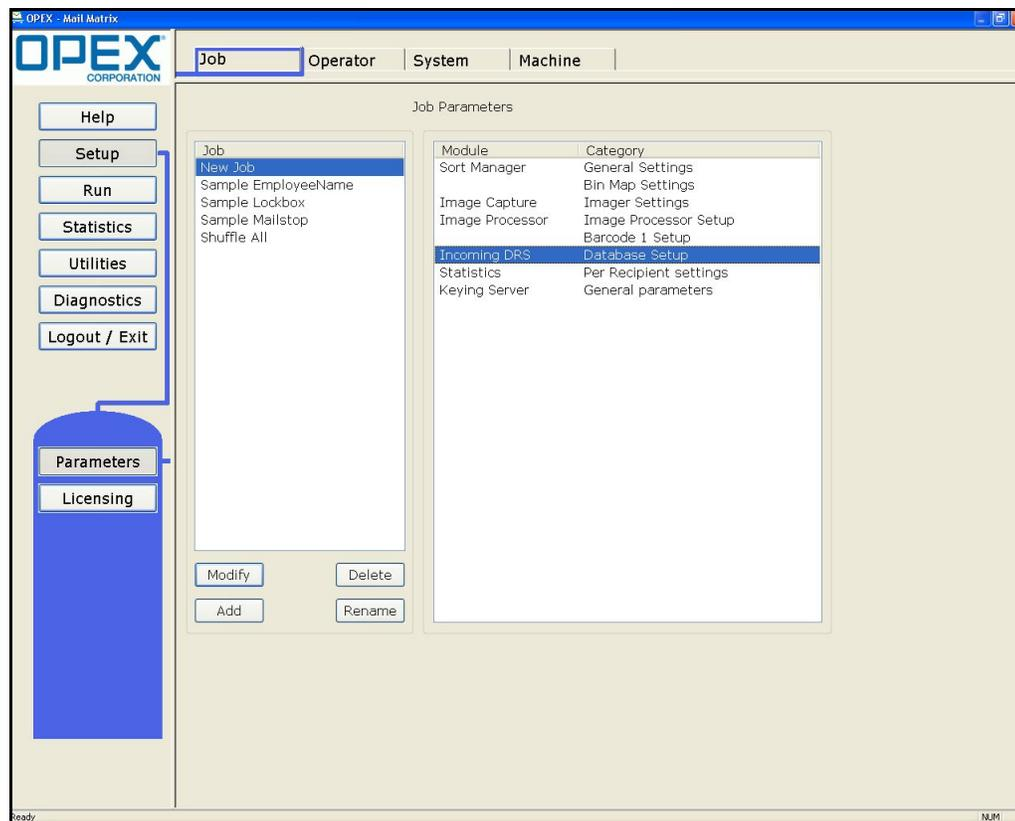

Figure 190: Database setup parameters
- a. In the Host software, open the **Database Setup** parameters (Figure 190).